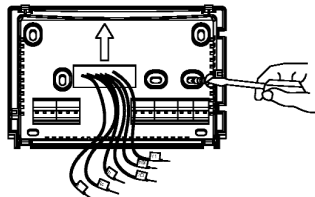

Figure 3.
- Reposition wallplate to wall, pulling wires through large opening. Insert mounting screws provided into wall anchor and tighten. See Figure 3.